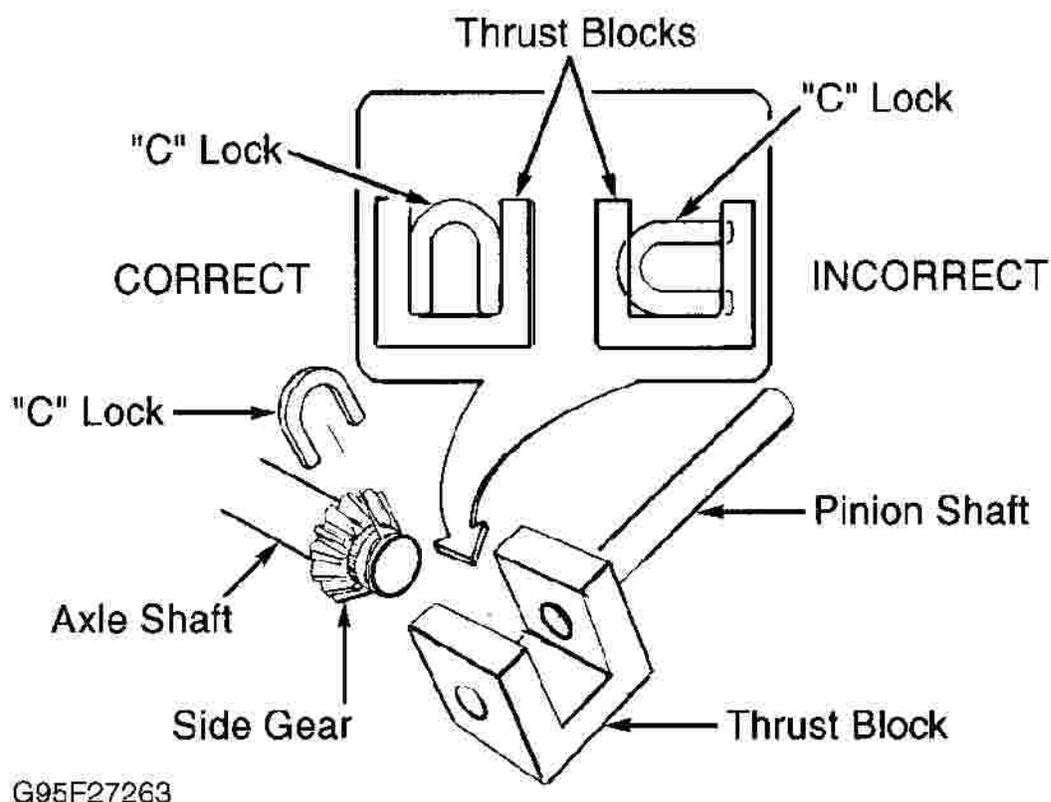

Fig. 2: Removing "C" Lock From Locking Differential
4. Using screwdriver, rotate "C" lock until its open end faces thrust block and "C" lock is aligned with thrust block sides. See **Fig. 2**. Push axle shaft inward. Remove "C" lock from thrust block and axle shaft groove. Remove axle shaft from axle housing. See **Fig. 2**.
2. Using Seal Installer (J-21128) for 8 1/2 and 8 5/8 or (J-29713) for 9 1/2, install axle shaft seal into housing until seal bottoms against housing shoulder. Install axle shaft and "C" lock. Ensure not to damage seal. On non-locking differential assemblies, install "C" lock on bottom of axle shaft. On locking differential assemblies, install "C" lock so that ends are flush with thrust block. See **Fig. 2**. On all assemblies, pull axle shaft outward to seat "C" lock.